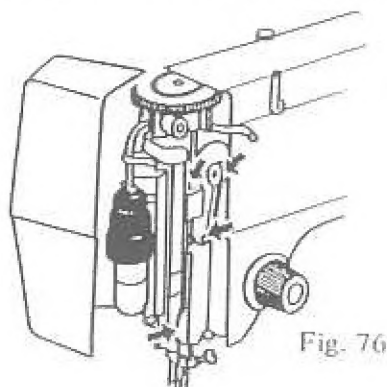

Fig. 76
3. Apply a few drops of oil to the needle bar driving parts, at the points indicated by arrows. (Fig. 76)